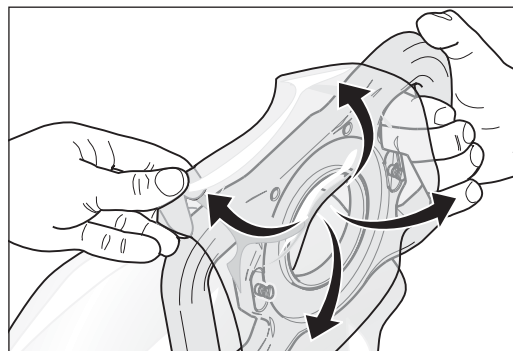

Fig. 20 Pull the waste bag over the fixture.
- 9 Pull the waste bag over the emptying fixture from behind (Fig. 20).